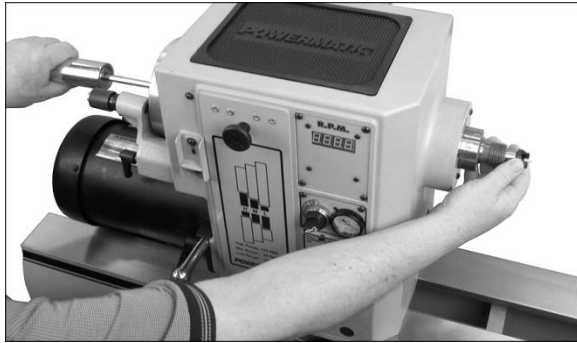

Figure 28
- To *remove* a spur center or live center, first remove workpiece from lathe. Insert knockout rod (Figure 28) through hole in handwheel and firmly tap the tapered end of spur center. The sliding collar on the knockout rod helps give the necessary impact without having to use a mallet against the end of the rod.